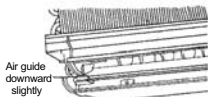

Figure 1
- For easier drainage through drain pipeline, ensure that the drain pipeline should be positioned in a declined mode (as shown in Figure 1).
- ① Before installation of front panel, please set vertical vane at the position as shown on Figure 1.
- ② Close the front panel and match the panel with the unit.
- ③ Gently press emergency switch on the front panel and see if the emergency button is properly matched with inside emergency switch
- ④ Fix screw and fix the front panel on the air-conditioner and replace the screw cover.